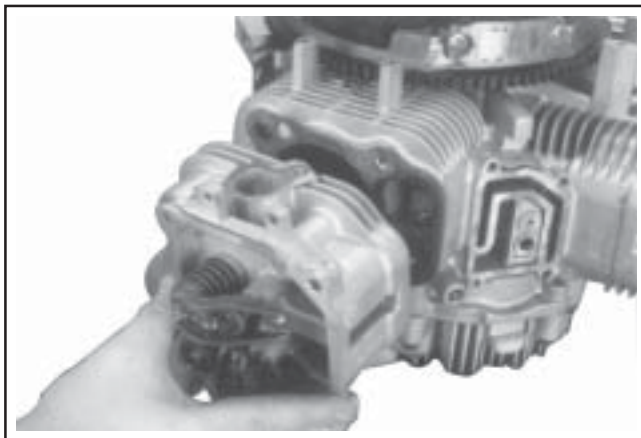

Figure 9-43. Removing Cylinder Head.
3. Carefully remove the push rods, cylinder heads, and head gaskets. See Figure 9-43.